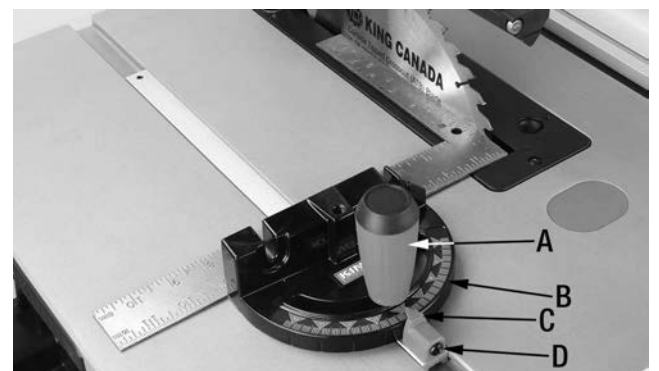

FIGURE 17
1. To adjust the miter gauge, loosen lock handle (A) Fig.17 and set the miter gauge body with scale (B) so the indicator (C) aligns to the desired cutting angle, then retighten lock handle.
2. For best results, it is recommended to check the miter gauge for squareness against the saw blade. Place a square against the blade, loosen lock handle (A) and place the miter gauge against the square. Once the miter gauge body is perfectly square with the blade, retighten lock handle (A). If the pointer (C) requires alignment, loosen screw (D), reposition the pointer and retighten screw.